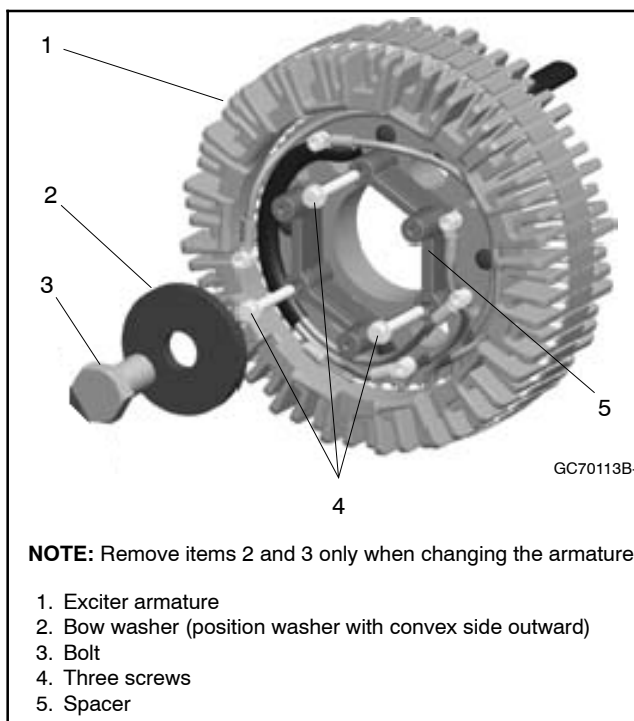

Figure 9 Spacer Removal
3.6 **For Units Before Alternator Serial Number 96779:** Remove the spacer by removing the 3 screws. See Figure 9. The existing spacer and 3 screws will not be reused. Remove the bow washer and bolt only when changing the armature.
- 4.4 **For Units Before Alternator Serial Number 96779:** If the armature was changed, secure the new exciter armature by reusing the existing bolt and bow washer. See Figure 9. Torque to 194 Nm (143 ft. lbs.).